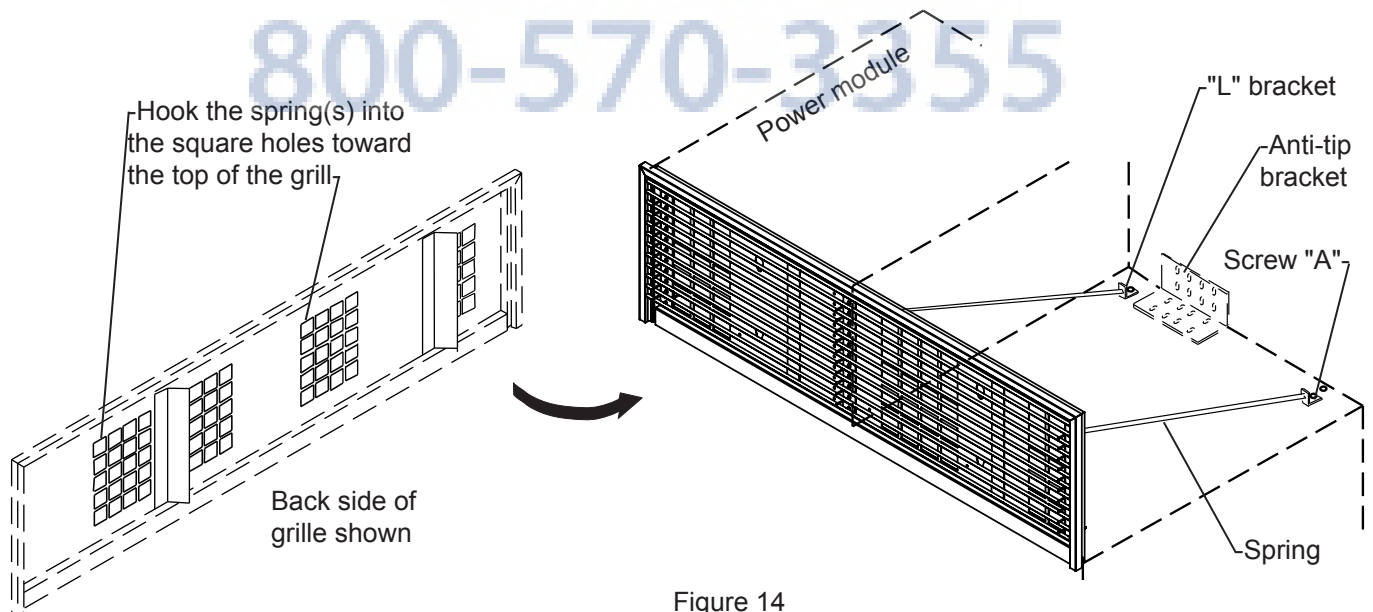

Figure 14
1. Remove screw A in mounting bracket. Mount L-bracket with screw A. See Figure 14.